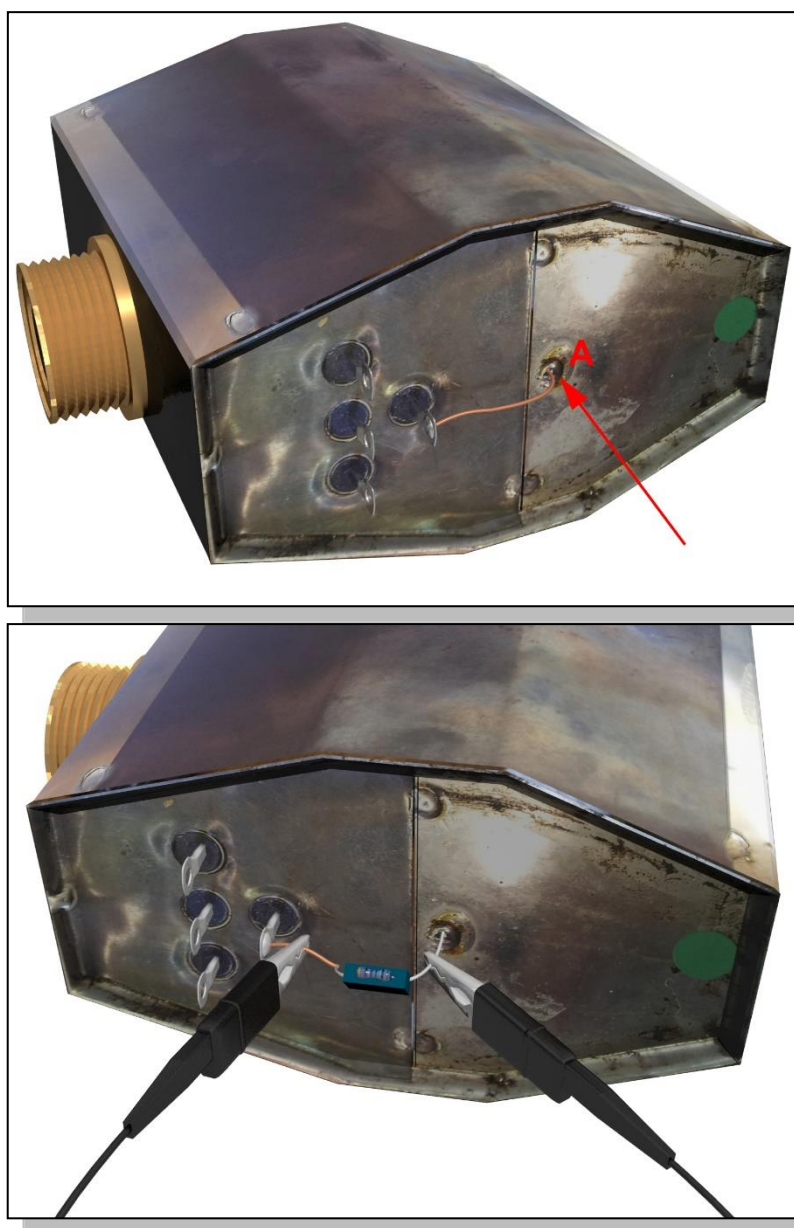

fig. 25
- ✓ After removing the back cover, referring to Fig.25 Unsolder the wire from the connector at point A and connect in series a resistance from 1K Ω
It is necessary to set the full scale of the multimeter in an appropriate manner in order to measure the voltage across the resistance; then after positioning the end sleeves of the multimeter across the resistor (as shown previously in fig.25) set an exposure time long enough to allow the multimeter to read this voltage (the order of magnitude of the exposure is approximately 1 sec). The value that is expected to read is like in the previous case of about 8 V (to each V corresponds 1 mA)